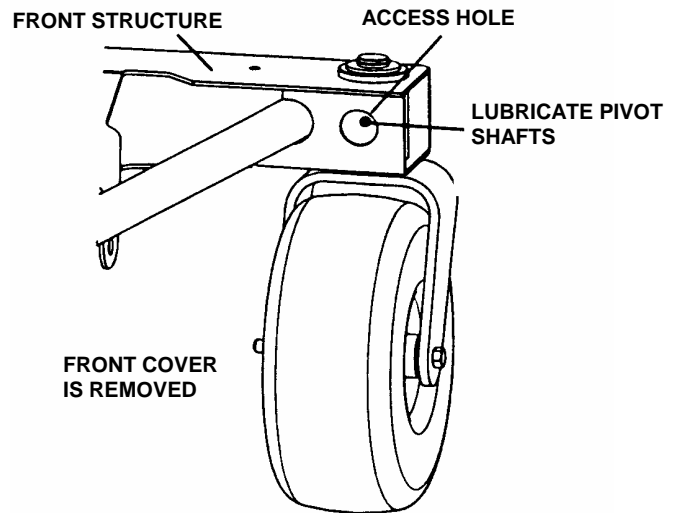

FIGURE 3.8
a. The pivot shaft grease fitting can be accessed through a hole at the rear of the front structure. Lubricate pivot shaft with three shots of general purpose grease from grease gun. See Figure 3.8.